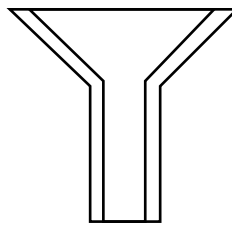

Fig 3
3. Gradually wind the cone downwards, the tube will be flared to an angle of 45° . See Fig 3.